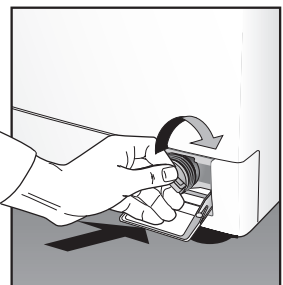

FIG 14
- Replace coin trap and turn clockwise until secure (Fig. 14). Gently tug cap to confirm that trap is secure.